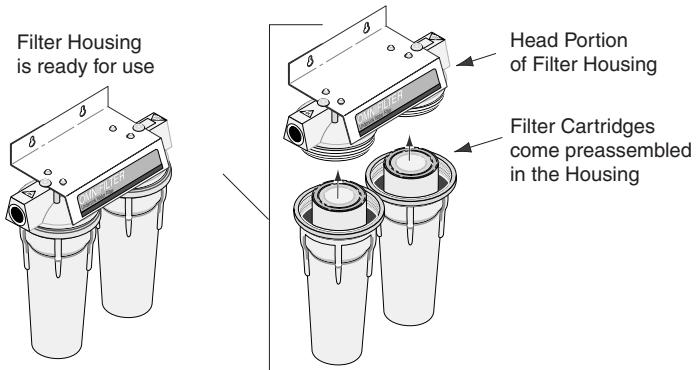

Figure 6
- The filter cartridge comes preassembled in the filter housing. See Figure 6 for the filter cartridge components.